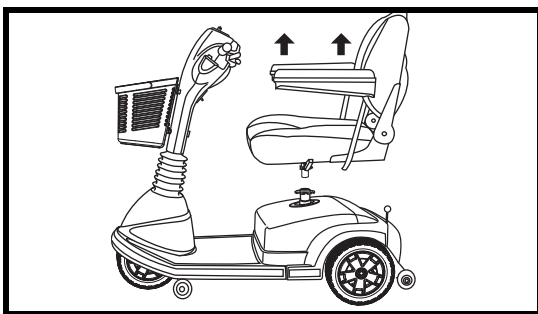

Figure 17. Seat Removal
2. Lift the seat straight up and off the scooter. See figure 17.